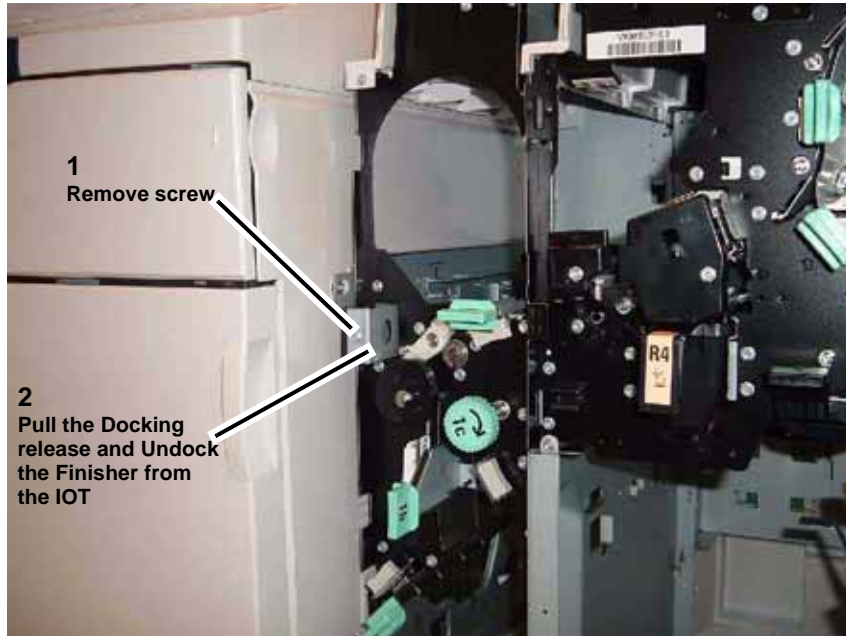

Figure 2 Separating the Finisher from the IOT
3. Separate the Finisher from the IOT (Figure 2).